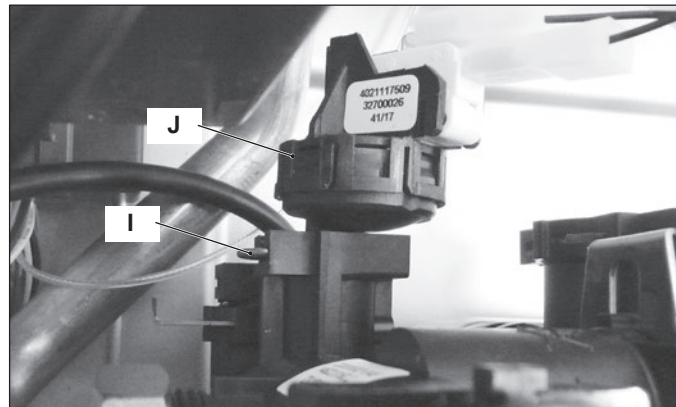

Figure 8.6
- 4 Remove the fixing spring "I" (Figure 8.6) and remove the primary circuit pressure switch "J".